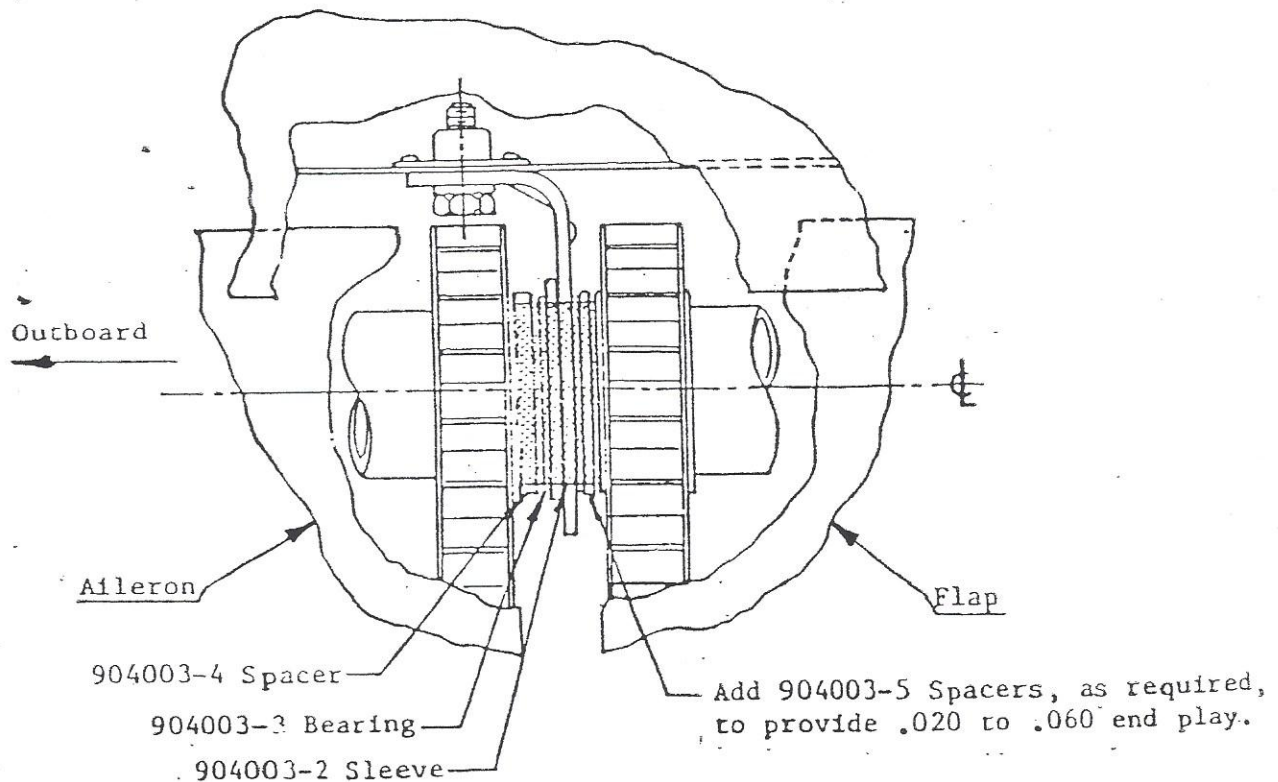

FIGURE 2. AILERON INBOARD BEARING REPAIR
11. Replace original spacers between outboard ends of flaps and the bearing support brackets with larger bore #904003-5 spacers supplied in the Kit. Discard original spacers. (See Figure 2).